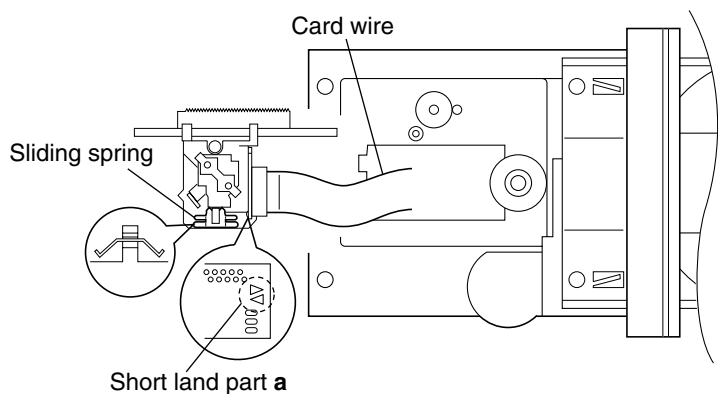

Fig.11
8. Turn the CD pickup unit upside down and apply solder to the short land part **a**. (See Fig.11.)
9. Disconnect the card wire from the CD pickup unit and replace the unit. (See Fig.11.)
[Cautions] · Be sure to solder the short land part **a** on the CD pickup unit before disconnecting the card wire from the CD pickup unit. (See Fig. 11.)
[Note] Removing the CD pickup unit involves the removal of the sliding spring. In the assembly, be sure to attach the spring in the correct orientation before attaching the CD pickup unit. (See Fig. 11.)